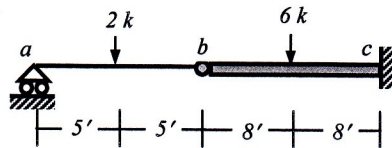

*Fig 1*
1. For the 2-storied frame loaded as shown in *Fig.1*, (i) Use the Portal Method to determine the value of applied forces  $F_1$  and  $F_2$  if shear in beam  $ab$  and  $cd$  is  $-3.33$  k and  $-8.33$  k respectively, (ii) Also draw the BMD of the beams and the columns.
2. For the 2-storied frame loaded as shown in *Fig.1*, use Cantilever Method to draw the AFD of the columns when,  $F_1 = 12$  k and  $F_2 = 20$  k. Assume all column areas are equal.